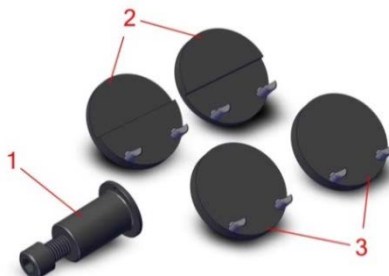

Figure 5.1.1
1. The Electronic Universal Sand Strength Machine, Model 42104, includes the required attachments to measure the compression and shear strength of molding sand. The attachments required to perform both tests are shown in Figure 5.1.1.
4. Using the screw on adjustable clamp holder (Figure 5.1.1, Item 1), carefully turn clockwise or counterclockwise to move the compression clamp located on the moveable clamp arm. Adjust the screw to remove any gap between the surfaces of the sand specimen and the surfaces of both the compression clamps.